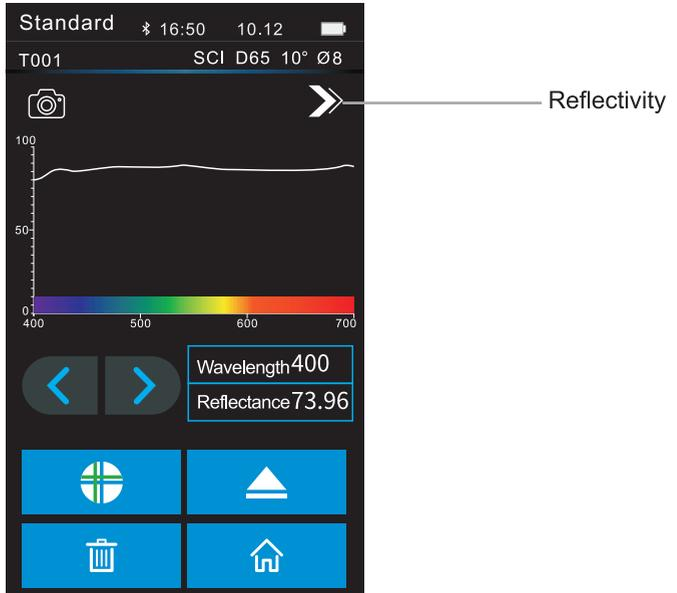

Figure 8 Measuring Reflectivity of Standard
9)**Wavelength Switch Button:** As shown in Figure 8, click the "  " button, and the reflectivity of the currently measured sample and the wavelength of light will be switched at intervals of 10nm"  "